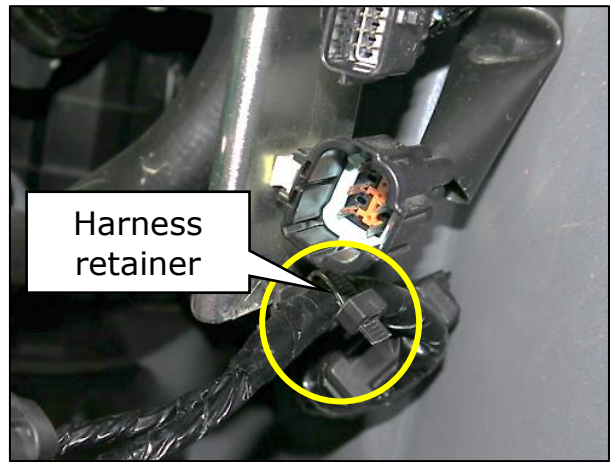

Figure 23
20. Disconnect the bumper harness retainer from the harness bracket. (Figure 23)